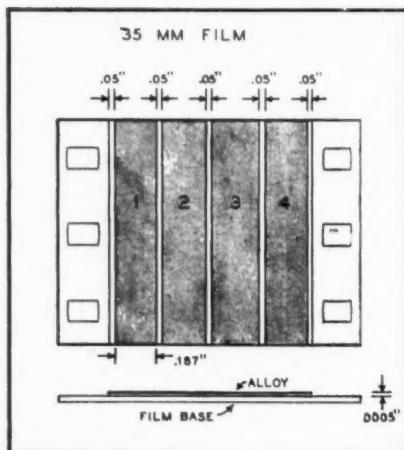

Figure 7
• The advantages and disadvantages of magnetic sound recording for motion picture films are discussed by Marvin Camras of the Armour Research Foundation in the *Journal of the Society of Motion Picture Engineers* for January 1947. The author concludes that the technique is both economical as well as convenient. Without the picture frames it is possible to accommodate four sound channels on one strip of 35-mm sound film as shown in Fig. 7.